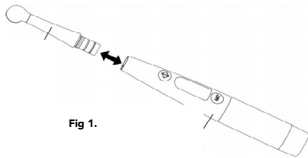

Fig 1.
1. As shown in Figure 1 below, the machine head can be pulled out and inserted into the handle along the direction of the arrow; Insert the head of the machine requires a little force, when the head is completely stuck into the handle, there will be a crisp "click" sound; Pull out the head with a little force when you need to remove it.